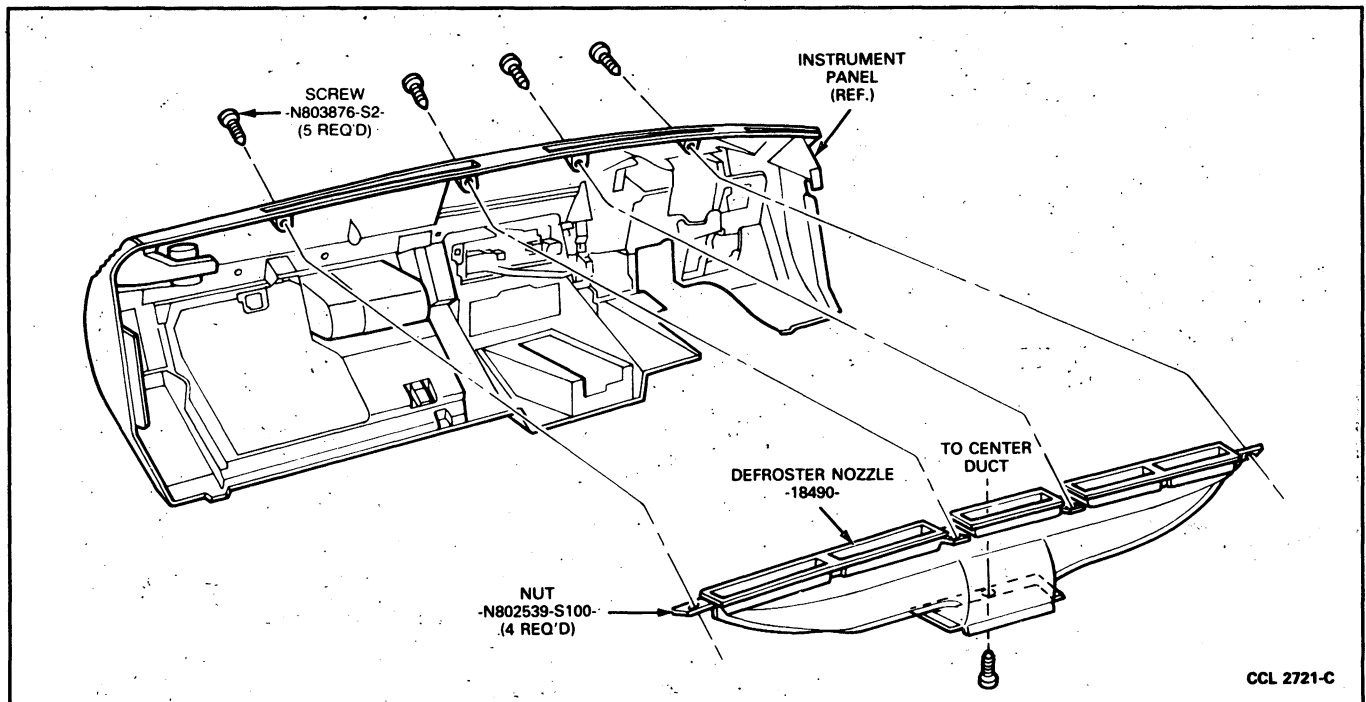

FIG. 10 Defroster Nozzle
2. Remove four screws attaching defroster nozzle to underside of instrument panel (Fig. 10).